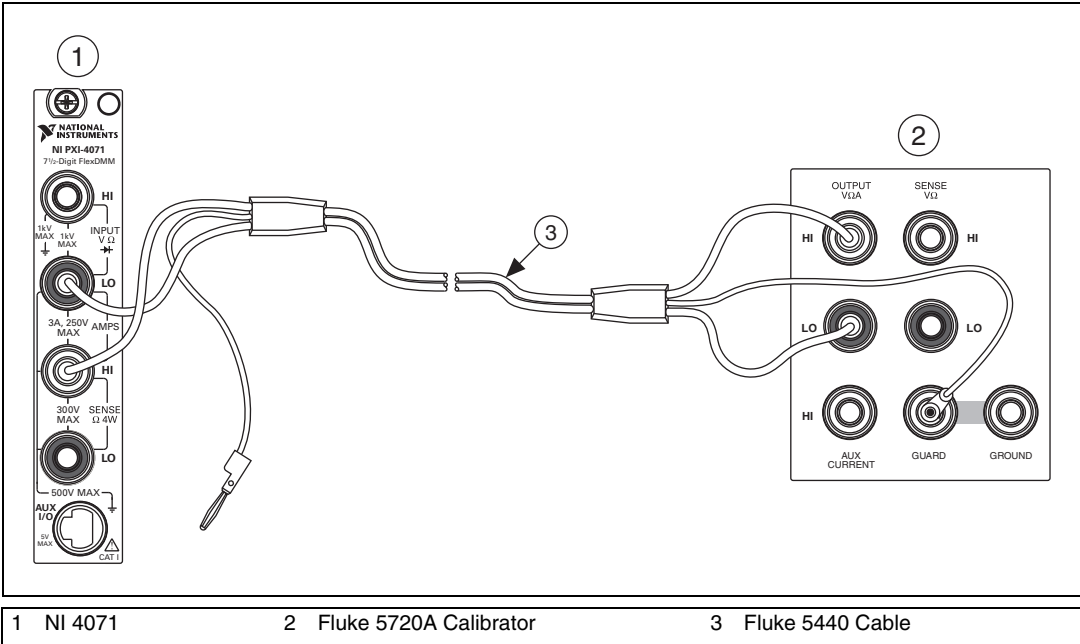

Figure 6. Cable Connections for Current
31. Connect the NI 4071 and the Fluke 5720A calibrator using the Fluke 5440 cable, as shown in Figure 6. Table 16 lists the cable connections.
2. Connect the NI 4071 and the Fluke 5720A calibrator using the Fluke 5440 cable, as shown in Figure 6. Table 16 lists the cable connections.